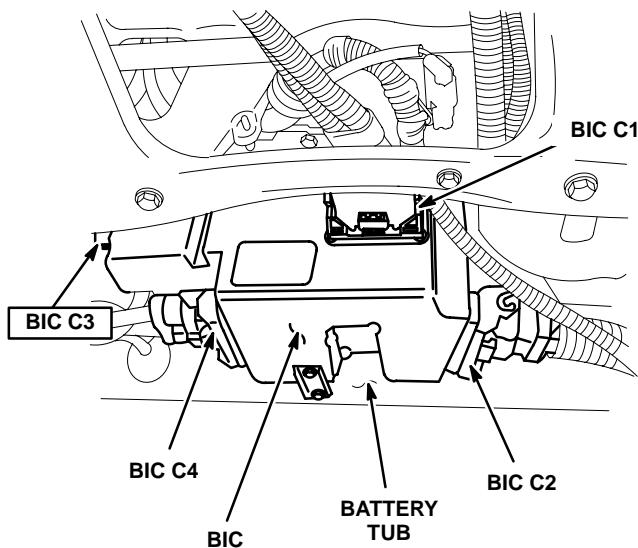

Fig. 2 BIC
- (1) Remove electrical connectors (3) from MCM.
- (2) Remove mounting bolts (3).
- (3) Remove MCM (Fig. 2).